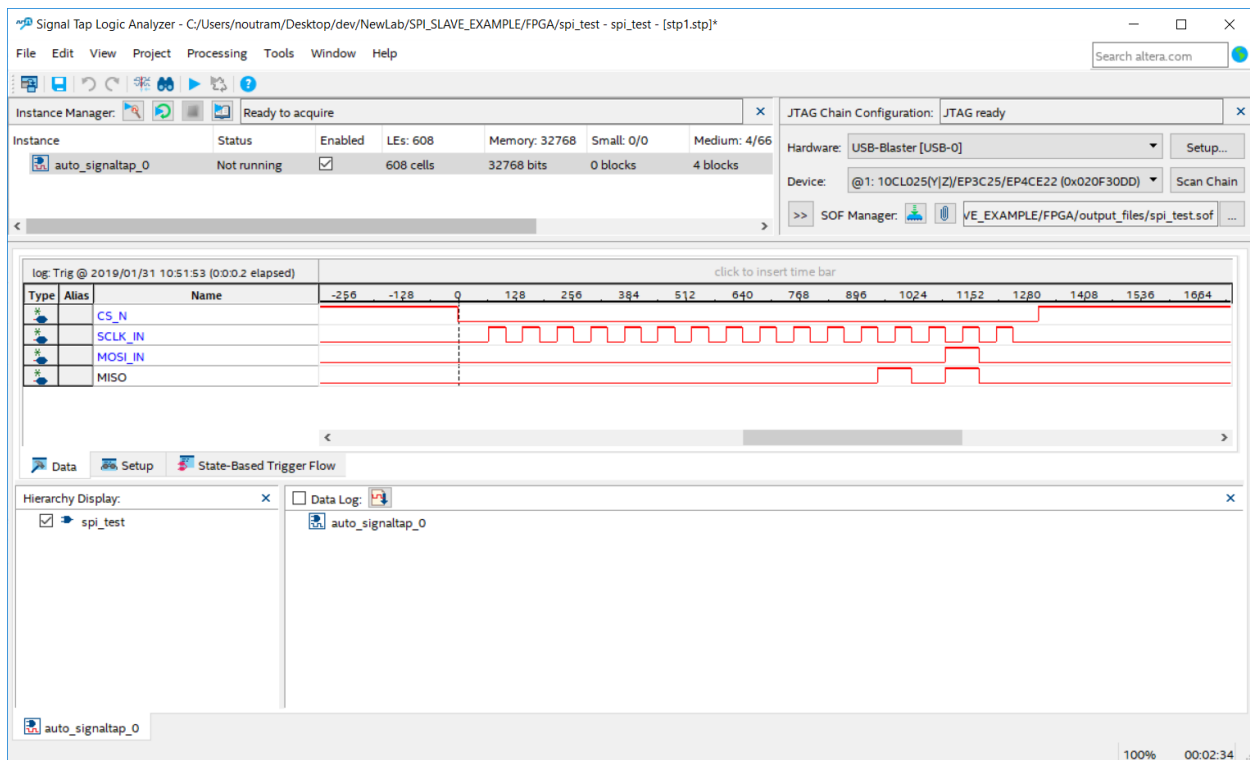

Figure 3. Example Signal Tap output for the SPI example
4. Click the capture button (4) or press F5 to capture the data. You should see a timing diagram similar to that in Figure 3 appear. Note the data on MOSI and MISO will vary depending on timing and the DIP switch positions.